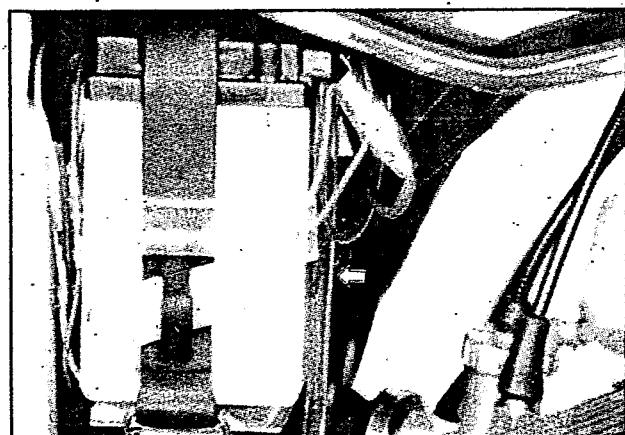

Fig 2.17
- Check to be sure that the vent pipe is secured properly and routed correctly. (fig 2.17)